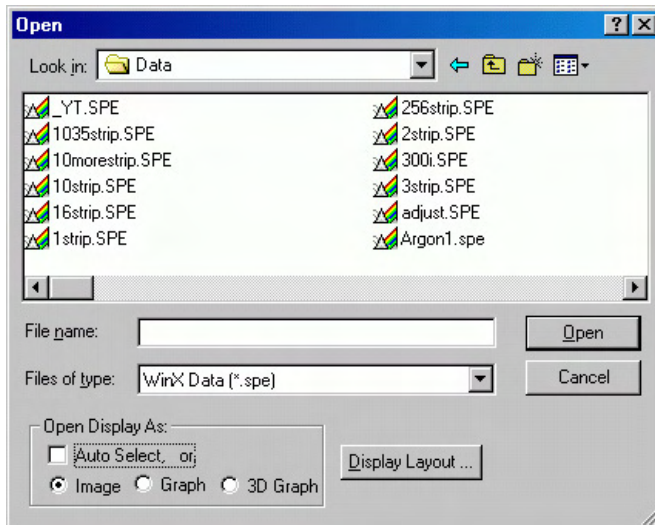

Figure 101. Open dialog box
1. From the File menu, select **Open**. The **Open** dialog box (Figure 101) allows you to select the image to be opened. The **Look-In** field provides a browser function so you can easily find the directory where the images. By default, the data directory is a subdirectory of the directory where WinSpec/32 was installed. Subdirectory names and the filenames of all files of the specified type (the WinSpec/32 data type is *.spe) in the current directory are listed in the box below the directory name. The WinSpec/32 data type is WinXData (*.spe).